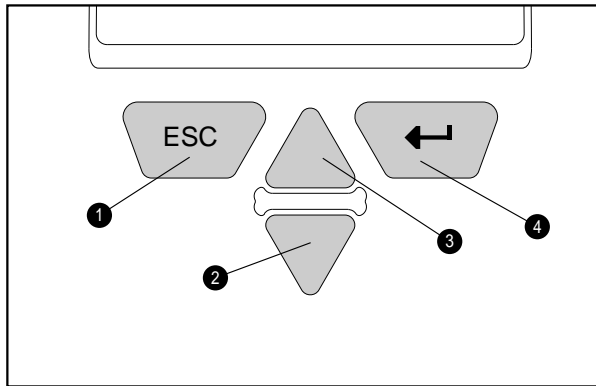

Figure 6-2. Integrated Management Display buttons
To navigate through the menus, use the four buttons shown in Figure 6-2. The Up and Down arrow keys (② and ③) allow you to move through the menu screens and choose menu items. The right button (④) acts as an Enter key and allows you to travel down through the menus. The left button (①) acts as an Escape key and allows you to travel back up the menu.